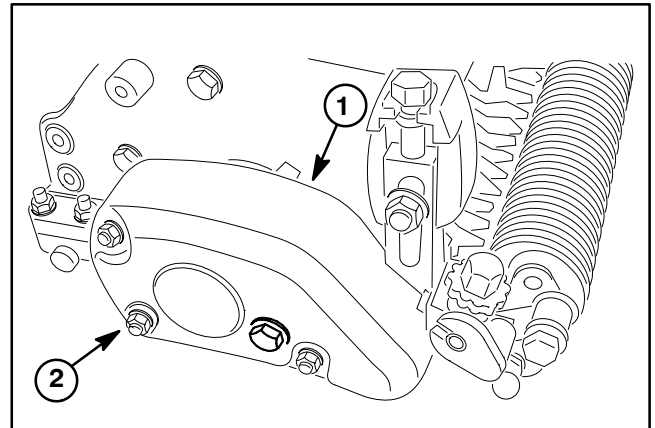

Figure 2
3. Remove three (3) lock nuts that secure groomer drive cover, then remove cover (Fig. 2).
6. Secure belt cover to machine with three (3) lock nuts (Fig. 2).